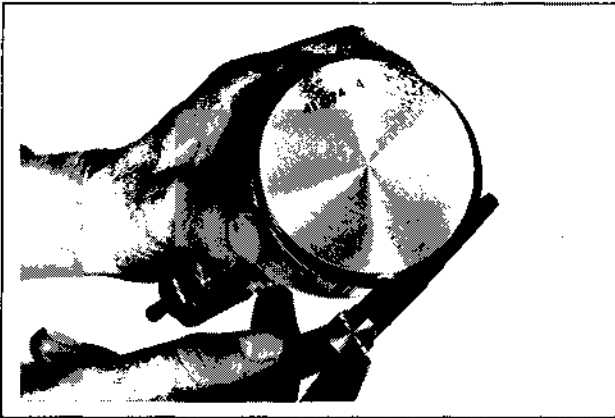

Figure 10-14. Measuring Piston Ring Side Clearance.
4. After installing the new compression (top and middle) rings on piston, check piston-to-ring side clearance. Maximum recommended side clearance is $.006$ ". If side clearance is greater than $.006$ ", a new piston must be used. Refer to Figure 10-14.